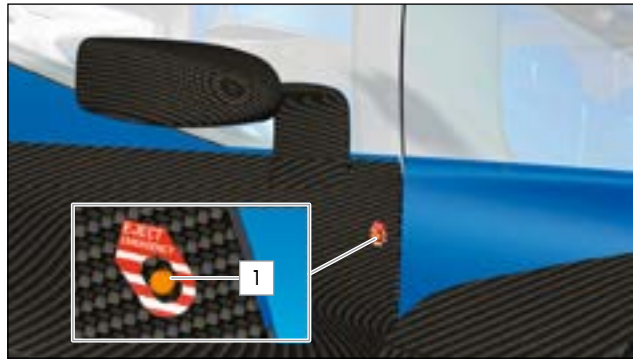

FIG.44 EMERGENCY RELEASE PIN ON THE DRIVER AND PASSENGER DOOR BELOW THE EXTERIOR MIRROR
Your BOLIDE has pins for removal of each door from the outside. There is a pin below the exterior mirror on each door (» Fig.44). There is also another pin on the roof above each door (» Fig.45).
- Pull the emergency release pins 1 (» Fig.44) and 2 (» Fig.45) to unlatch the door.